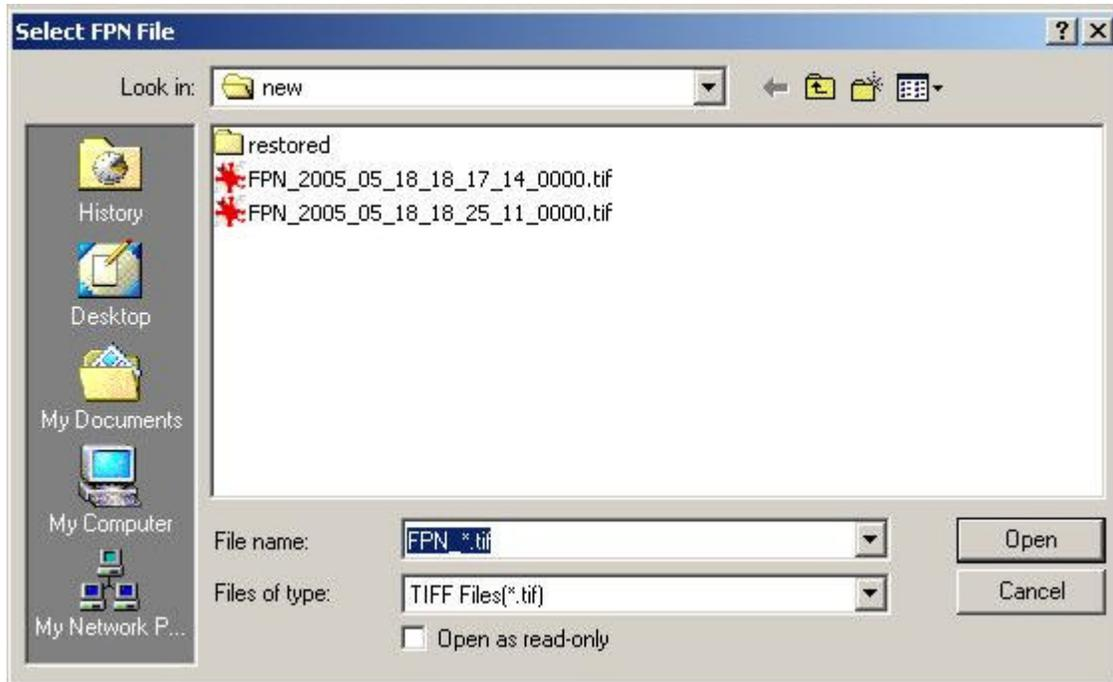

Figure 16, The FPN file selection
3. If the application doesn't remember you doing the **FPN preparation**, it will ask you to select an appropriate FPN file, like in the **Figure 16** below.